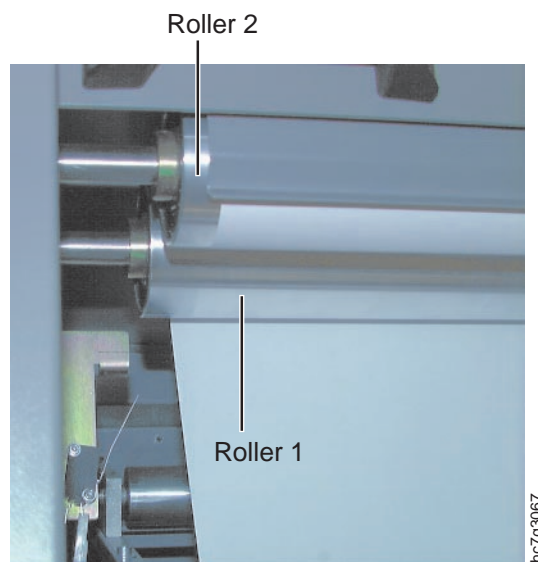

Figure 308. *Threading Around Rollers 1 and 2*
11. Pull up and thread the leading edge of the print medium, behind and over roller 1 and then under roller 2, as shown in Figure 308.